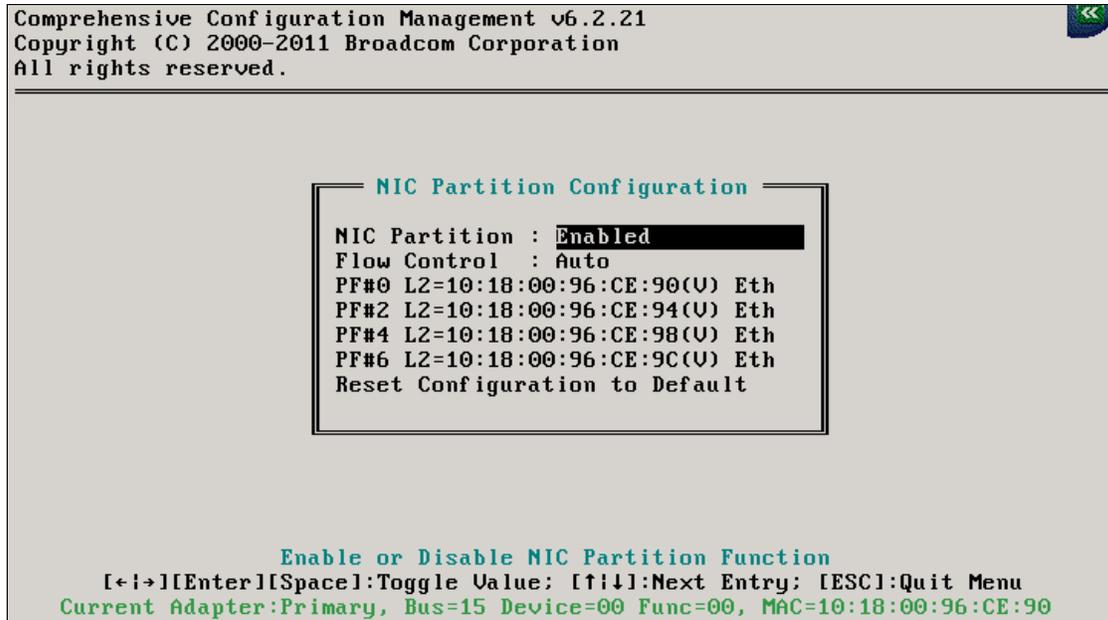

Figure 9-15 NIC Partition Configuration panel
5. In the NIC Partition Configuration panel (Figure 9-15), highlight the NIC Partition field, and press the right arrow to change the value to **Enabled**.